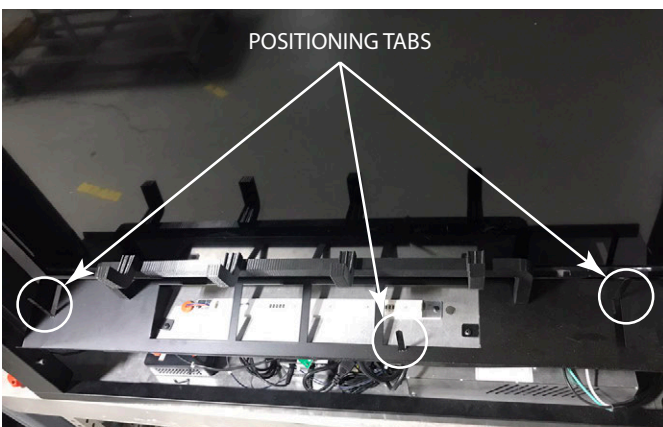
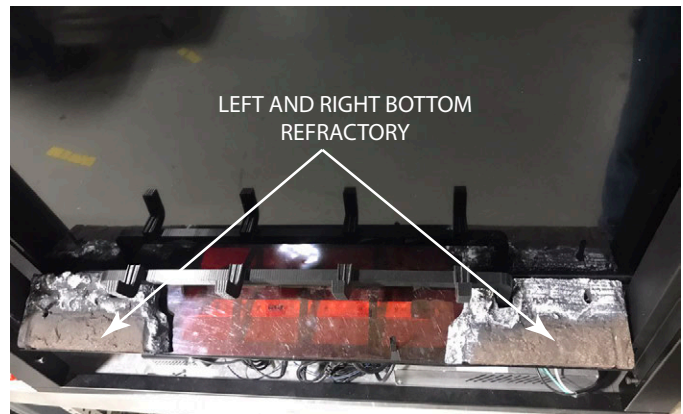

Figure 4.15 Fold Up Tabs
Figure 4.17 Install Left and Right Base Refractory Pieces
2. Locate the (3) Positioning Tabs and bend tabs to an upward orientation. See Figure 4.15.
4. Place the left and right base refractory pieces on the base pan of the appliance. Each piece will fit over the Positioning Tab (that were folded up in step 2) as shown in Figure 4.15. See Figure 4.17.